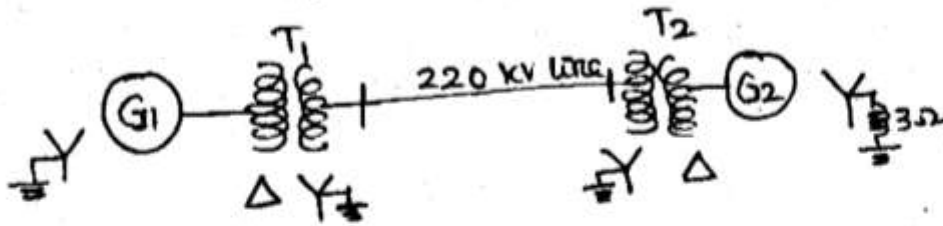

Figure. 14(b) Power System Network
14. (a) Derive the necessary equation to determine the fault current for a Line - to - Line fault. Draw a diagram showing the interconnection of sequence networks. (16)
- (b) Figure. 14(b) Shows a power system network. Draw zero sequence network for this system. The system data is as under.